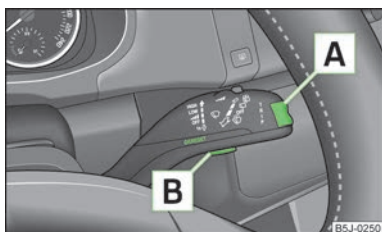

Fig. 6
Switching over the memory takes place with the button **B** » Fig. 6 on page 13 on the windshield wiper lever.
The rocker switch **A** » Fig. 6 and the button **B** are located on the windscreen wiper lever.
» Press the button **B** » Fig. 6.
» Briefly press the rocker switch **A** » Fig. 6 up or down. This opens the individual functions of the multifunction display one after the other.
» Press the button **B** » Fig. 6 for longer.
If the outside temperature drops below +4 °C, a snow flake symbol (warning signal for ice on the road) appears before the temperature indicator and an audible signal will sound. After pressing the rocker switch **A** » Fig. 6 on page 13, the function which was shown last is indicated.
The driving time which has elapsed since the memory was last erased, appears in the display. If you want to measure the driving time from a particular moment in time on, at this moment, reset the memory by setting the button **B** » Fig. 6 on page 13 to zero.
If you wish to determine the average fuel consumption over a certain period of time, you must set the memory at the start of the new measurement to zero using the button **[B]** » Fig. 6 on page 13. After erasing the memory, no value appears in the display until you have driven approx. 300 m.
The distance travelled since the memory was last erased is shown in the display » page 12. If you want to measure the distance travelled from a particular moment in time on, at this moment, reset the memory by setting the button **[B]** » Fig. 6 on page 13 to zero.
The average speed since the memory was last erased is shown in the display in km/hour » page 12. To determine the average speed over a certain period of time, set the memory to zero at the start of the measurement using button **[B]** » Fig. 6 on page 13.
- › With button **[A]** » Fig. 6 on page 13, choose the menu point **Warning against excessive speeds**.